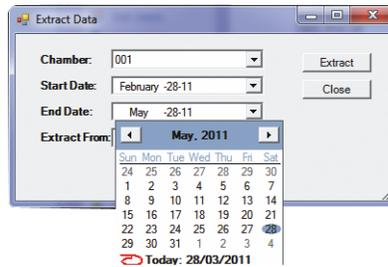

Figure 3-10 Select End Date
3. Select the end date (Figure 3-10).